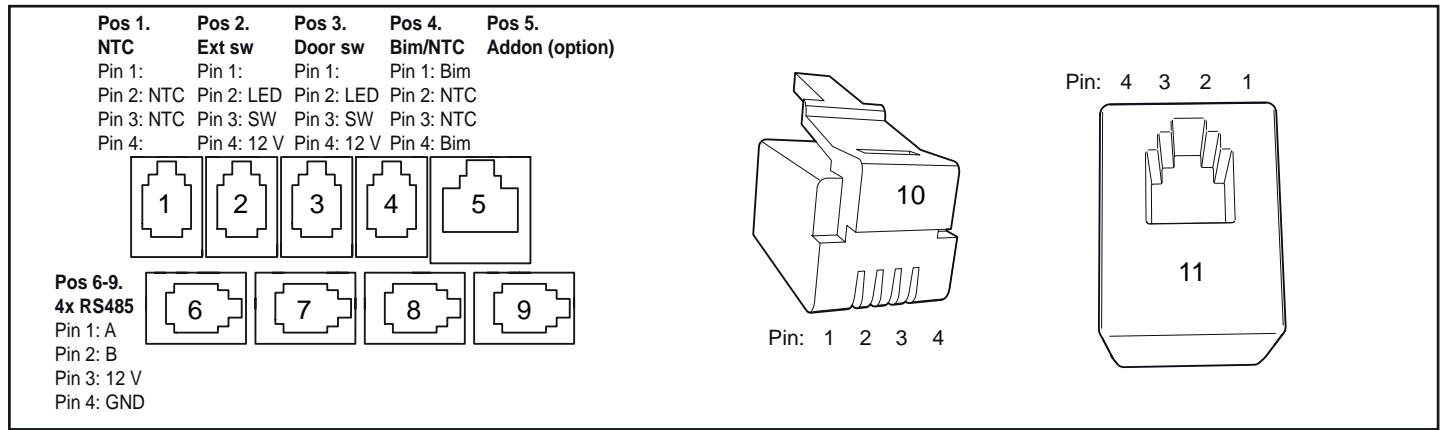

Figure 19: Modular contacts, description (Pos 1-4 and 6-9: RJ10, Pos 5: RJ45)
1. Modular plug (RJ10, see Fig 19)